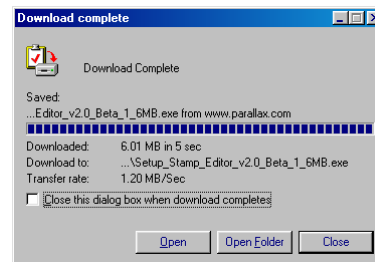

Figure 1-13: Download Complete
- ✓ When the download is complete, leave the window shown in Figure 1-13 open while you skip to the next section - Activity #2: Installing the Software.